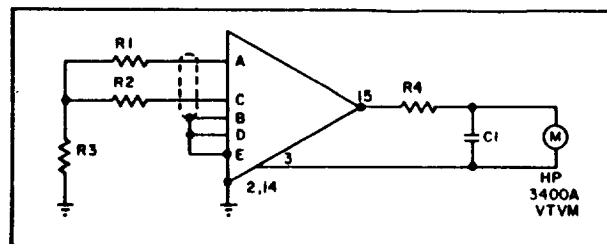
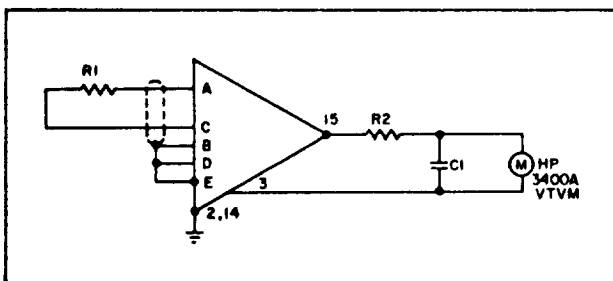

Figure 6-6. Noise Test Circuit
Figure 6-7. Noise Test Circuit (With Multipliers)
- 1) Connect the amplifier as shown in Figure 6-6. R1, R2, and R3 are wirewound or metal film resistors. R1 and R2 are 0-1000 ohms, and R3 is 0-100K
- 1) Connect the amplifier as shown in Figure 6-7. R1 is a 0-10K ohm wirewound or metal film resistor. R2 is the same as R4 in Figure 6-6.
- 2) Repeat steps (2), (3), and (4) of the previous procedure.
- a. Connect the amplifier as shown in Figure 6-6 (Noise Test Circuit) with  $R1$ ,  $R2$ , and  $R3 = 0$ .